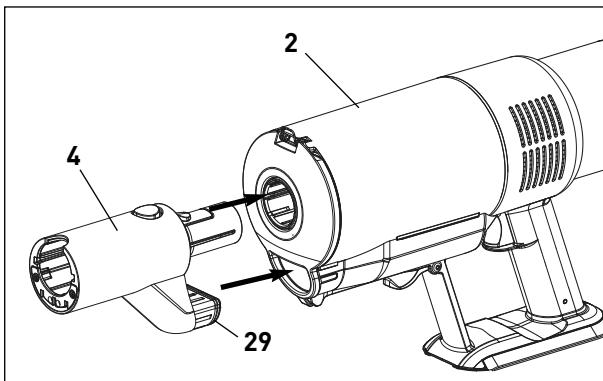

Figure 1
**Step 1 - Attach the Adapter - Figure 1** - Fit the adapter (4) into the center of the dust container (2), with the air channel (29) lined up with the duct under the dust container. Slide the adapter in until it clicks into place.